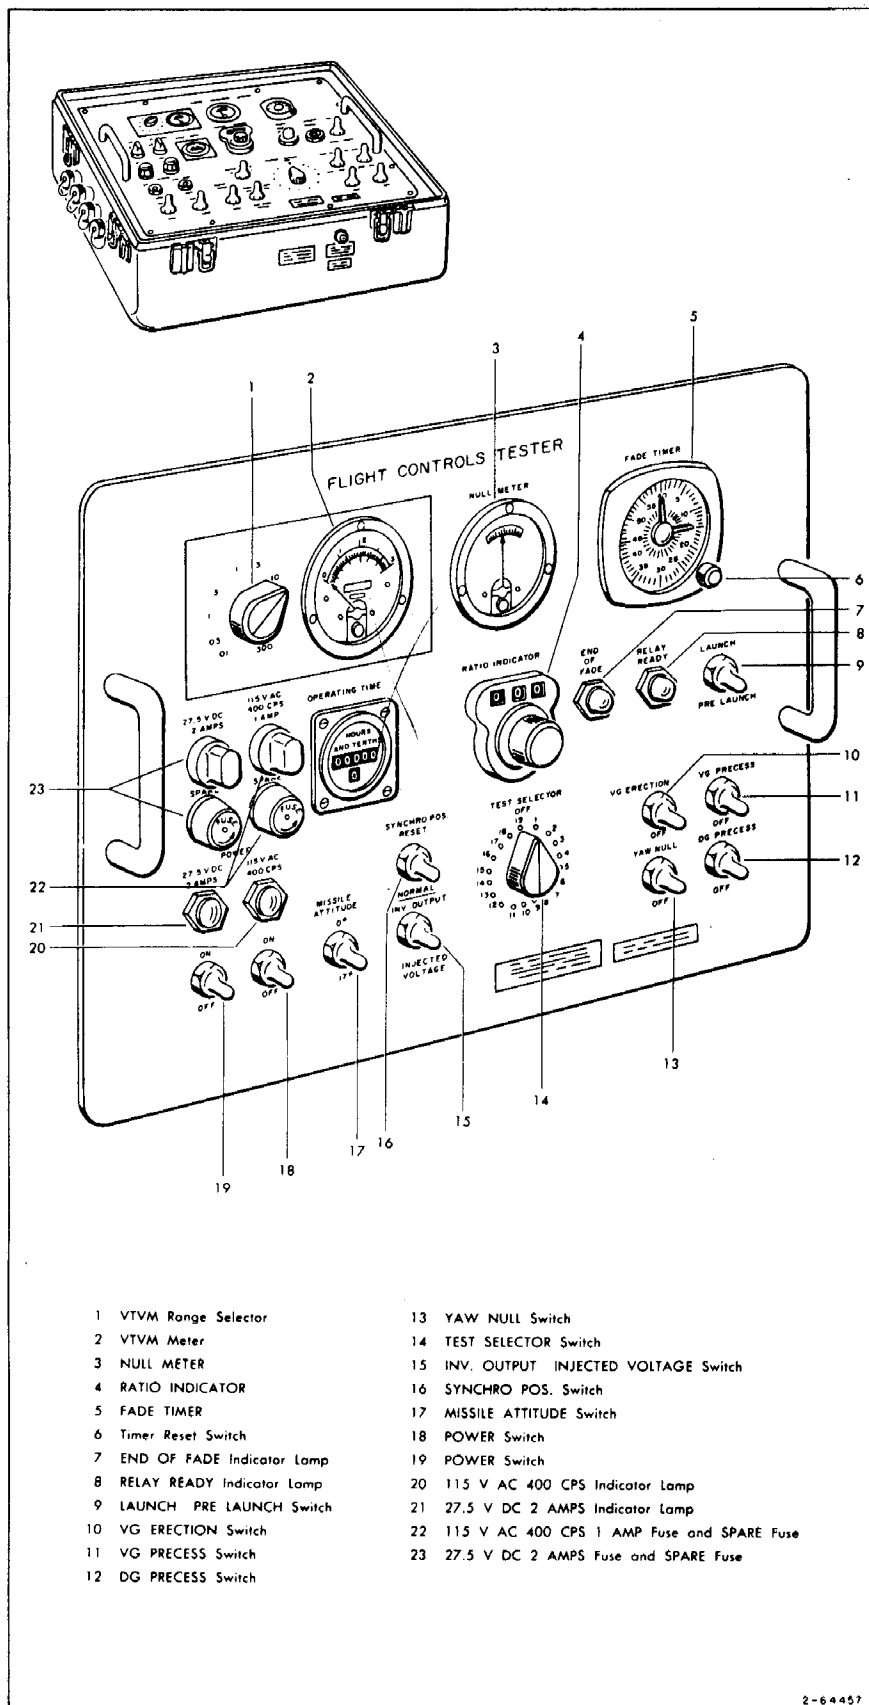

Figure 3-24. Flight Controls Tester
- c. Place TEST SELECTOR switch (14, figure 3-24) OFF.
- d. Place VTVM range selector (1) fully 300.